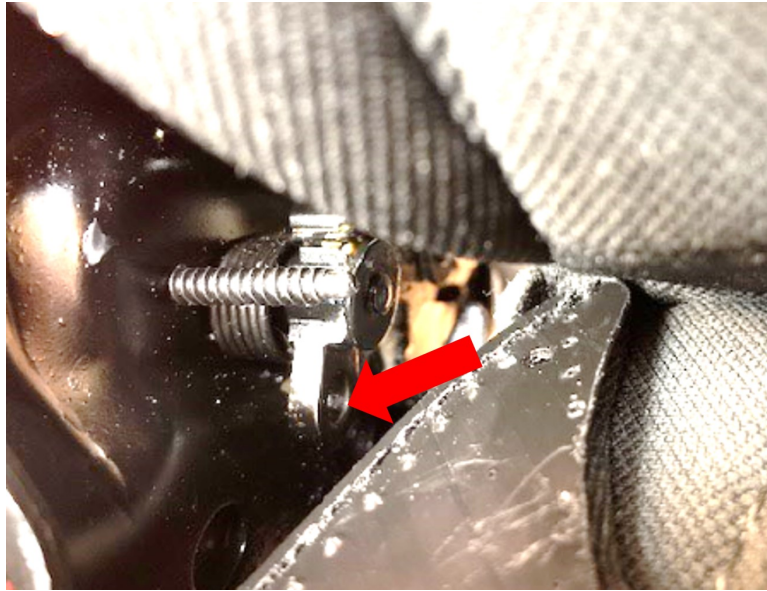

Fig. 6
10. Remove the cable z-fitting from the interlock bracket hole (Fig. 6) .
12. Install the cable z-fitting to the interlock bracket hole (Fig. 6) .